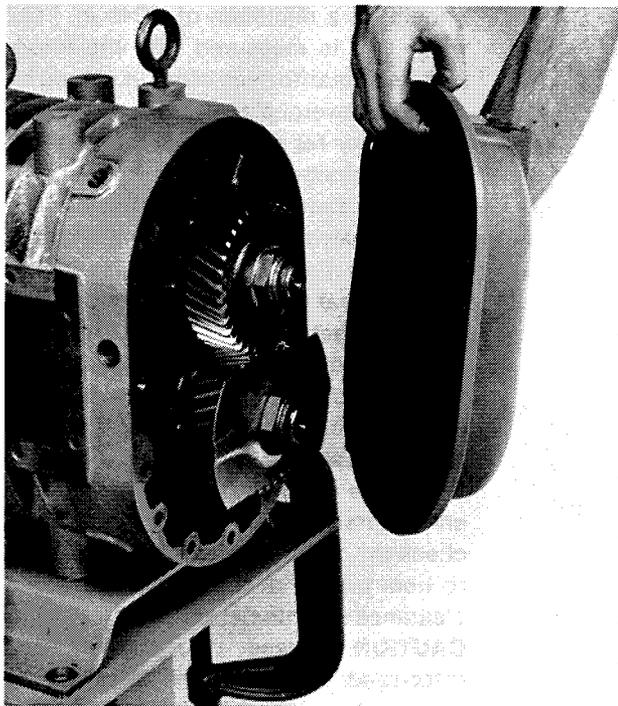

FIGURE 32
- z. Assemble gasket (31) to gear end cover (1).
- aa. Assemble gasket and cover to gear end plate with 14 cap screws (4), 14 lock washers (6) and 2 cap screw and lock washer assemblies (5). Torque all cap screws to 28 to 32 ft-lb [3.9 to 4.4 mkg] (see Fig. 32).